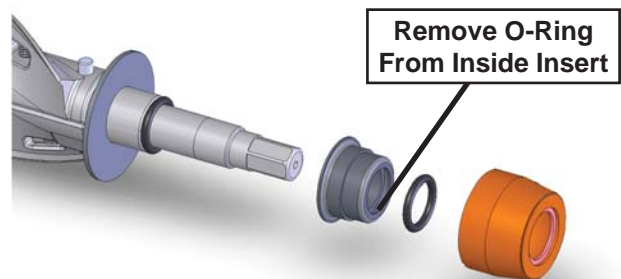

Figure 3-5 Rear Seal Assembly
4. Wipe the hex drive anti-seize off of the hex end of the auger with a paper towel. Remove the rear seal assembly (Fig. 3-5).